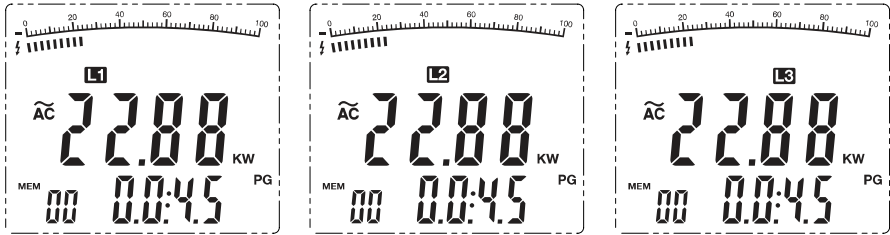

Figure 8
4. Press the **L1-L2-L3** button to choose the first phase **L1** (see figure 8).
5. Press the Σ button to save and sum the measured value for **L1**. (see Figure 8)
7. Press the **L1-L2-L3** button to choose the first phase **L2**. The primary display shows the kW for phase L1 and the secondary display shows the Phase angle (PG).
8. Press the Σ button to save and sum the measured value for **L2**. (figure 8). The primary display shows the kW for phase L2 and the secondary display shows the Phase angle (PG).
10. Press the **L1-L2-L3** button to choose the first phase **L3**. The primary display shows the kW for phase L3 and the secondary display shows the Phase angle (PG).
11. Press the Σ button to save and sum the measured value for **L3**. (figure 8)
4. Press the **L1-L2-L3** button to choose the first phase **L1** (see figure 8). The primary display shows the kW for phase L1 and the secondary display shows the Phase angle (PG).
7. Press the **L1-L2-L3** button to choose the first phase **L3**. The primary display shows the kW for phase L3 and the secondary display shows the Phase angle (PG).
8. Press the Σ button to save and sum the measured value for **L3**. (figure 8)